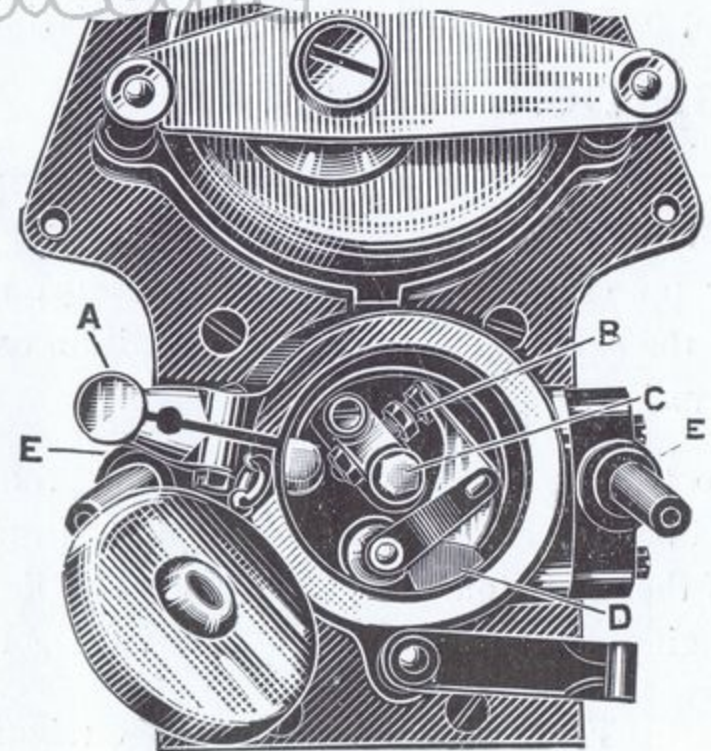

Fig. 11.
5. With magnetos provided with variable ignition, the contact breaker lever A (see Fig. 11) should be moved to the fully retarded position, that is, to the limit of motion in the same direction as that in which the armature revolves.
6. Remove contact breaker cover and slightly turn the armature until the fibre block D (Fig. 11, page 15) rises on the inclined plane of the cam cage just sufficiently to separate the points B. This position is the firing point, and the magneto drive should be permanently fixed in this position.